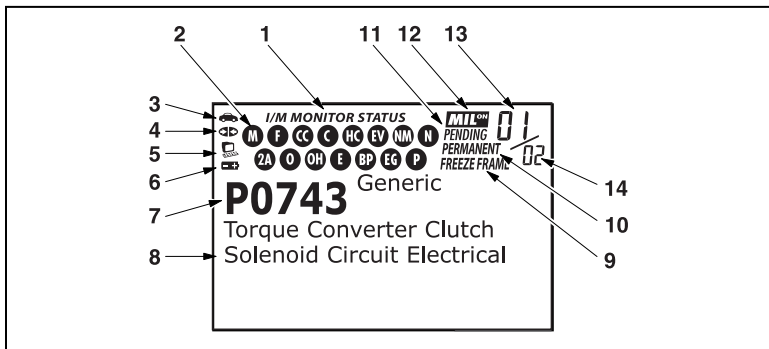

Figure 2. Display Functions
See Figure 2 for the locations of items 1 through 14, below.